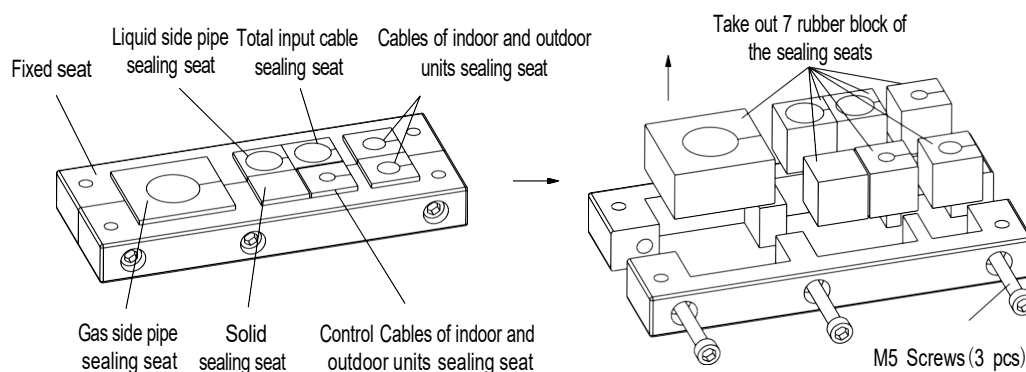

Figure 2-22 Split rubber block holder locking
- The external copper pipe of the air conditioner has a liquid side copper pipe (thin) and a gas side pipe (coarse). Pass the copper tube through the hole in the top of the cabinet and insert it into the sealing seat, as shown in Figure 2-22. At this point, pass other cables through the seal seat at the same time.